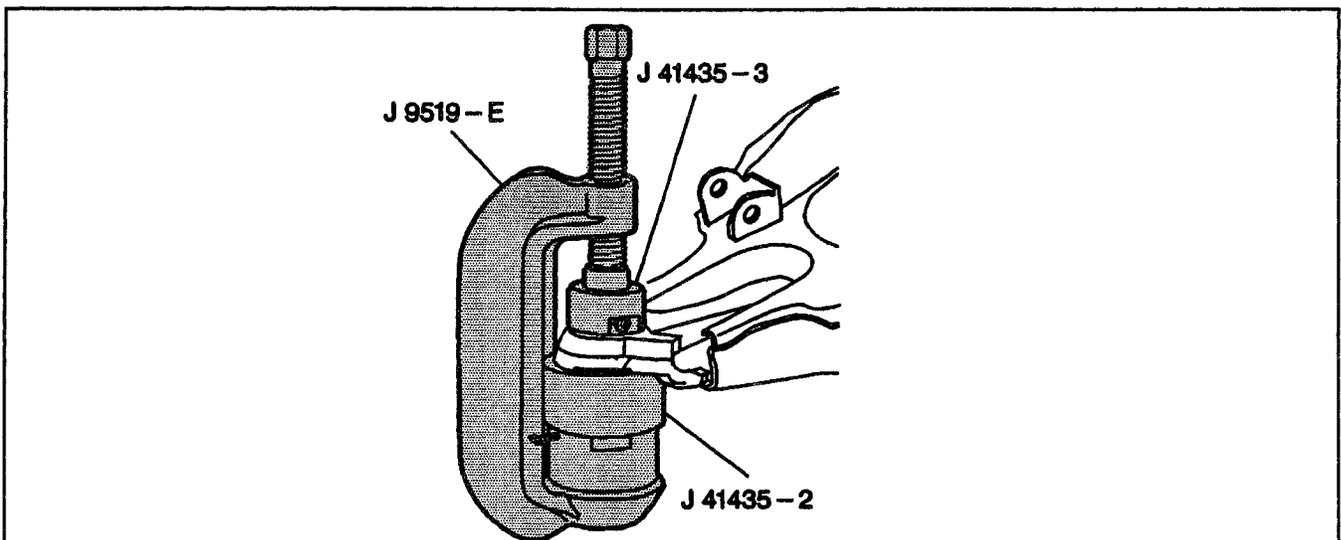

Figure 39—Installing the Lower Ball Joint
- Press in the ball joint using tools in (Figure 39). The ball joint will bottom on the control arm.